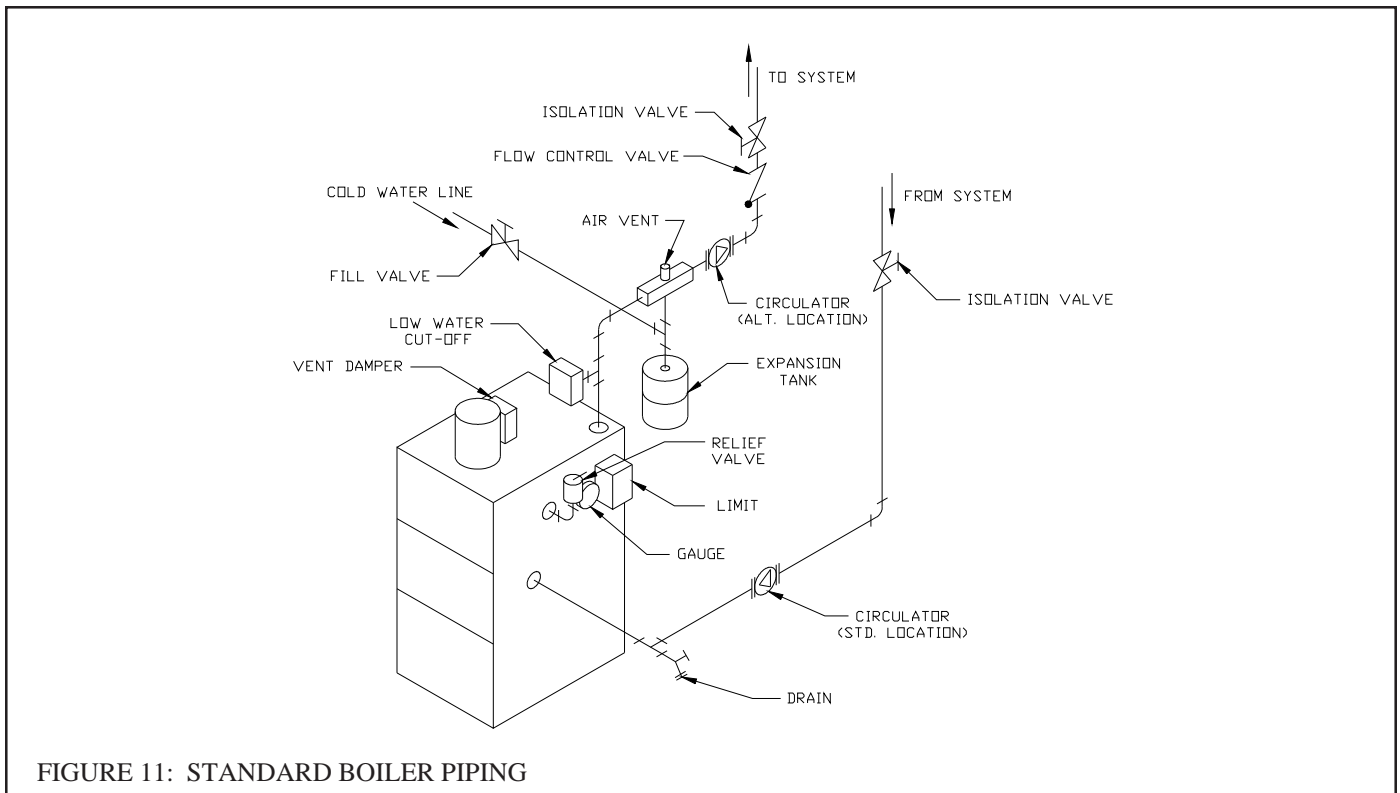

FIGURE 11: STANDARD BOILER PIPING
Figure 11 shows typical boiler system connections on a single zone system. Additional information on hydronic system design may be found in *Installation of Residential Hydronic Systems* (Pub. #200) published by the Hydronics Institute in Berkeley Heights, NJ. The components in this system and their purposes are as follows:
- 2) Circulator (Required) - Although the circulator is shipped on the boiler return, it can be installed on the boiler supply. If the circulator is moved to the supply it should be positioned just downstream of the expansion tank as shown in Figure 11.